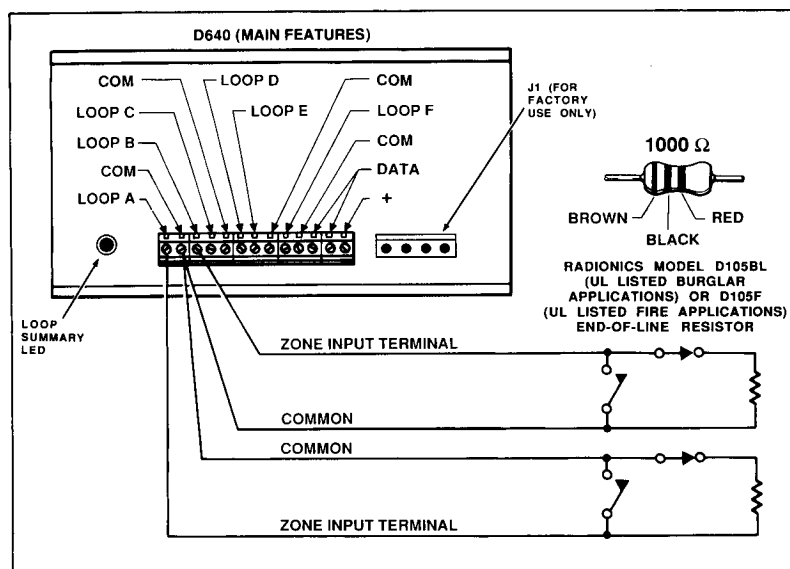

Figure 17: WIRING THE D640 PROTECTIVE ZONES
**17.3 Wiring the D640 Protective Zones** - D640 protective zones function independently, and are similar to loops connected to the D6112 Control/Communicator (see Figure 17 and Section 11 Protective Zone Inputs). Each zone is supervised with a 1000 ohm end-of-line resistor. Six 1000 ohm resistors are supplied with the D640: one Radionics model 105F (for U.L. listed fire applications) and five 105BLs (for U.L. listed burglary alarm applications). Dry contact sensing devices may be connected in series (normally-closed) or in parallel (normally-open) to any of these zones. Each zone can detect open circuit, closed circuit, and normal circuit conditions (refer to the table in Section 11.2 "Protective Zone Parameters" for voltages of specific circuit conditions). The D6112 is programmed with a zone code for each protective zone. The zone code determines how each zone responds to faults and arming stations. Consult the *D6112:MAIN Program Entry Guide* for programming details.